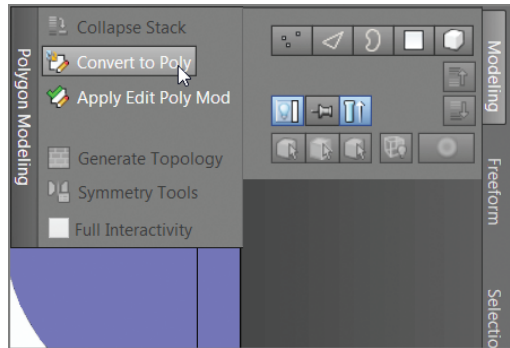

FIGURE 2.5 Converting the cylinder to an editable poly
1. In the Graphite Modeling Tools tab > Polygon Modeling. It expands and you see the Convert To Poly button. Click it, as shown in Figure 2.5.
In the Polygon Modeling panel is a line of icons (shown at the top of Figure 2.5). These are the components, or sub-objects, of your object.